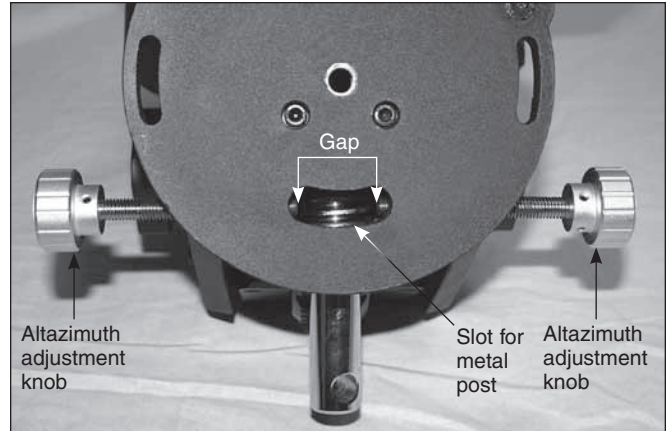

Figure 9. If the azimuth adjustment bolts are already installed, make sure there is a wide gap between them in the slot.
2. Before attaching the mount, if the azimuth adjustment knobs are installed, make sure there is a wide gap between the bolts (**Figure 9**).